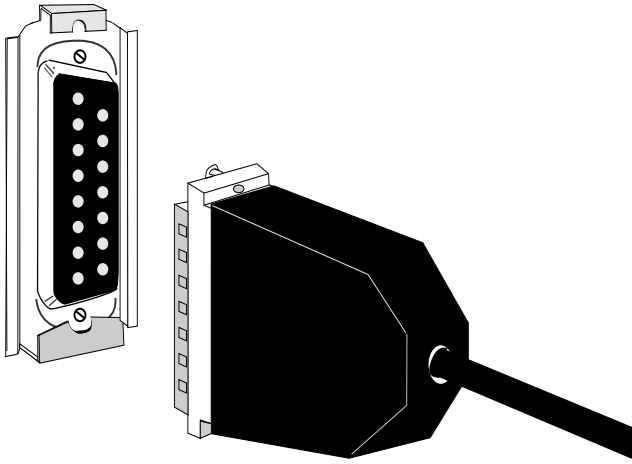

Figure 3-13. Connecting an AUI Cable to an AUI Port
3. Attach the male connector on the AUI cable (Fig. 3-13) to the AUI port on the TPRMIM-36, or EPIM-A.